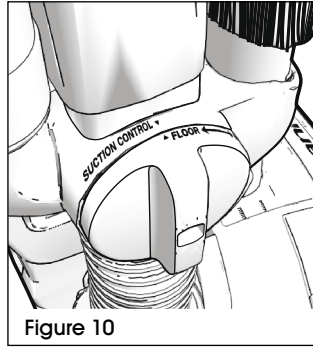

Figure 10
3. To return to floor cleaning, rotate the valve towards the front of the cleaner until the indicator points to the floor setting. Replace the wand into the lower retainer and secure into the wand clip. The cleaner is equipped with a wand device that prevents the wand from being stored until the suction control valve is set to the floor position. (See Figure 10)